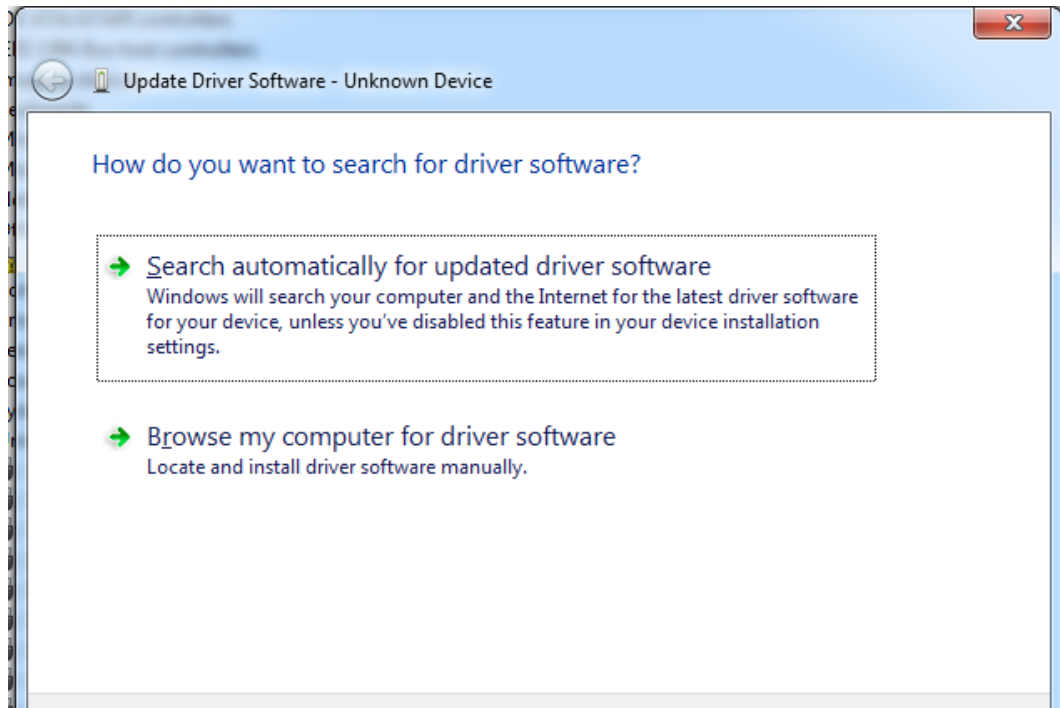

Figure 3.3: Windows update driver option
8. Right-click on the “Unknown device” (or “USB Serial Device (COM2)”) as shown in the previous step) and select the “Update Driver Software” (or “Update driver”) option as shown in Fig. 3.3.